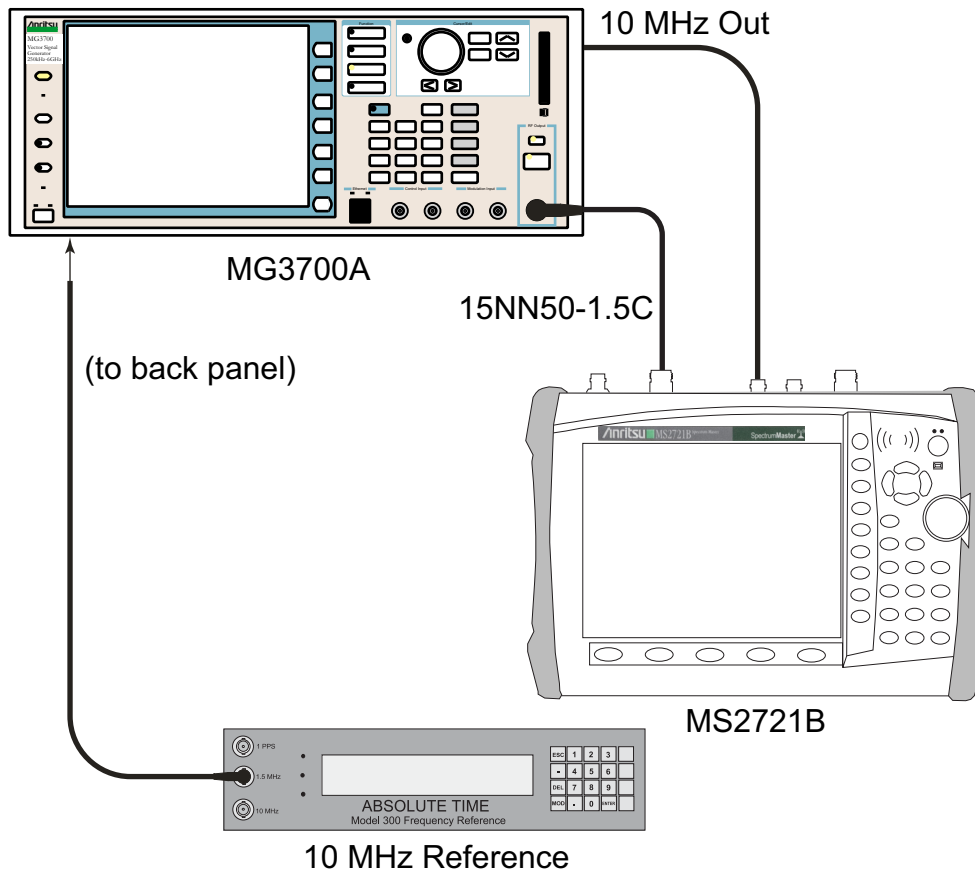

Figure 3-3. ISDB-T Option 30 — Signal Analyzer Verification Test Setup
1. Connect the 10 MHz Frequency Reference source to the Anritsu MG3700A and MS2721B as shown in Figure 3-3.
1. Connect the 10 MHz Frequency Reference source to the Anritsu MG3700A and the MS2721B as shown in Figure 3-3, “ISDB-T Option 30 — Signal Analyzer Verification Test Setup” on page 3-6.